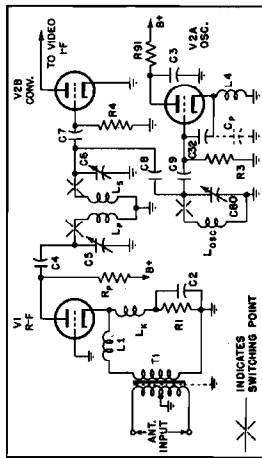

Fig. 2. R-F Amplifier, Converter, and Oscillator
1.1. R-F AMPLIFIER, CONVERTER, AND OSCILLATOR (SEE FIGURE 2).